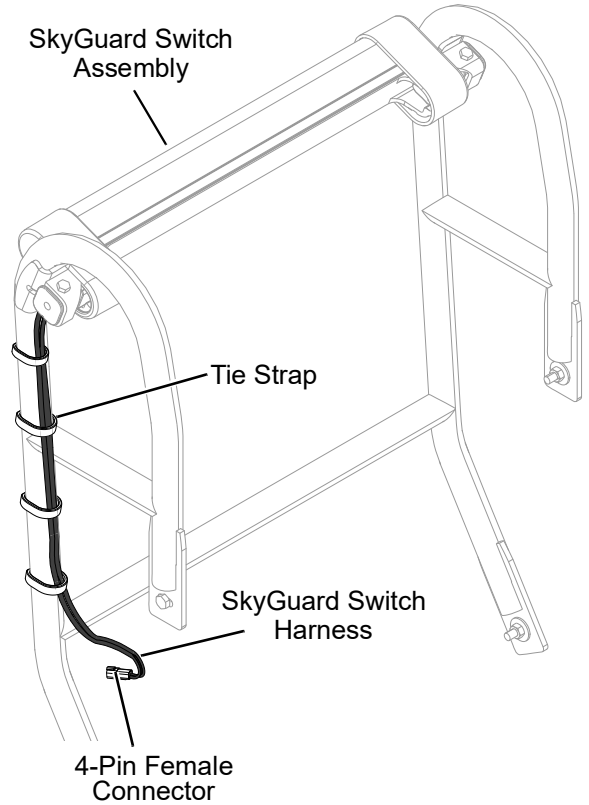

Figure 4-41.
9. Route the SkyGuard switch harness along SkyGuard support bracket (right side) and under the platform control box. Secure the harness using tie straps. See Figure 4-41.